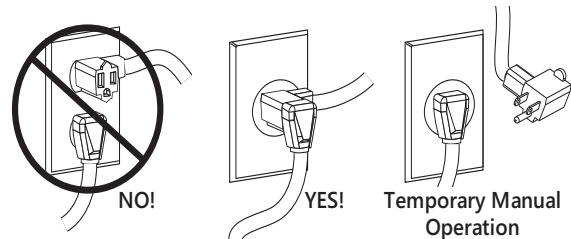
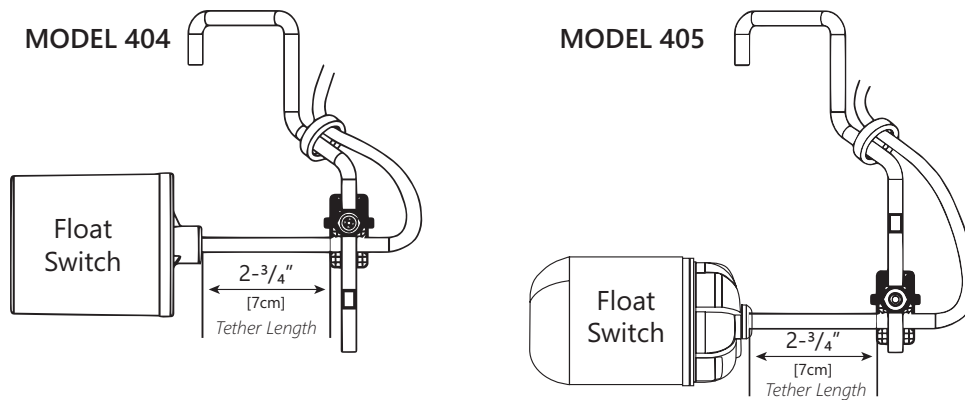

Figure 6. Piggyback Plug Installation
Figure 7. Pump Float Switch and Tether Length
The Model 404 and 405-Series pumps come factory-equipped with a float switch mounted in the tank. There are two controlling cords—one to the float switch (float switch shown in Figure 7) and the other to the pump motor. The float switch cord has a series (piggyback) plug enabling the pump motor cord to be plugged into the back of it (see Figure 6). The purpose of this design is to allow temporary manual operation of the pump.
**IMPORTANT:** Do not adjust the tether length (*tether length is the distance of cord measured between the clamp and top of float switch*). If replacing the switch, make sure to maintain the correct tether length for the model. Refer to Figure 7.